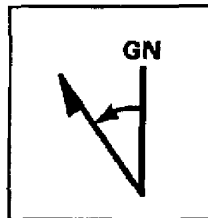

Figure C-33. Converting azimuths with westerly G-M angle
6. Convert azimuths when given a westerly G-M angle (figure C-33).